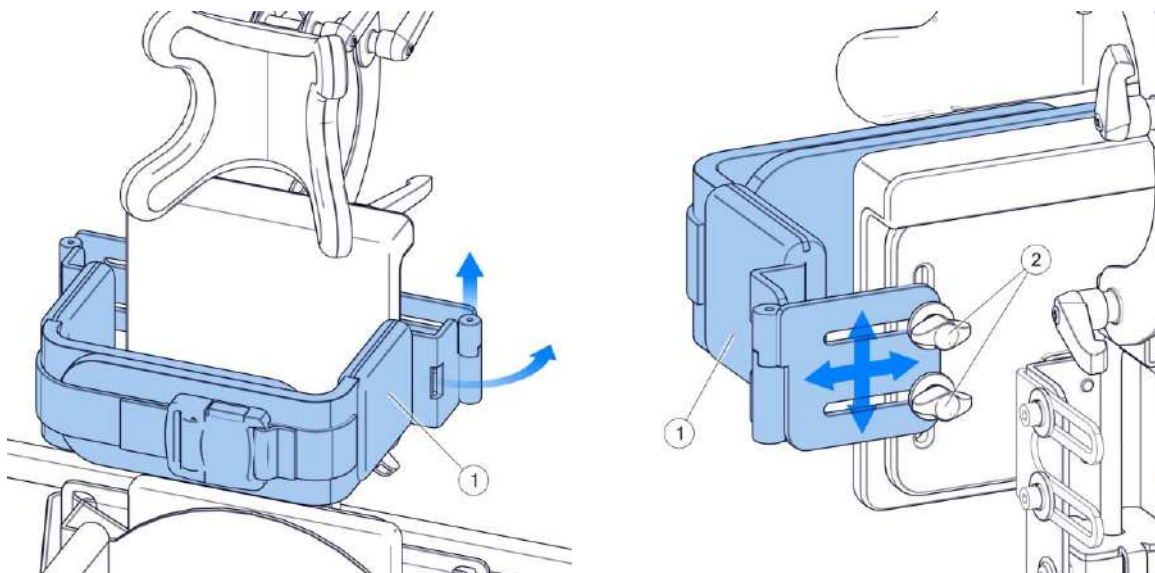

Figure 25
8.5. Fastened SideUP chest supports (flip away laterals) – Figure 25